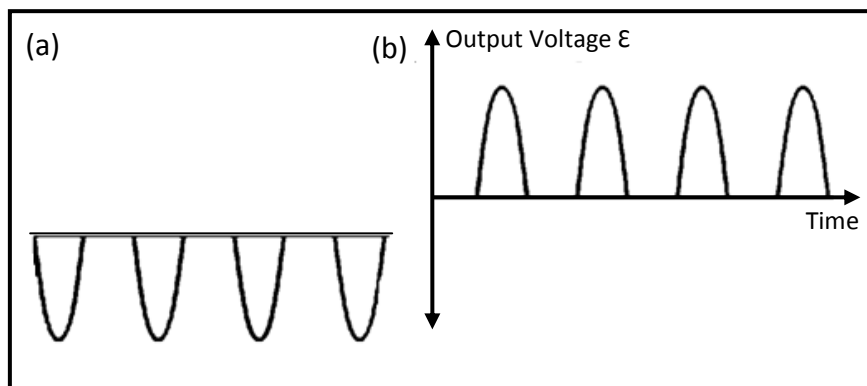

Figure 20. (a) Negative component of AC; (b) Positive signal is allowed to pass through the diode
This property has significant application in converting alternating current (AC) to direct current (DC). Using a network circuit of diodes, the cut off negative cycle (Figure 20) can be made positive. This process is called rectification. As we have studied previously, alternating current (AC) is the main power source in our homes but direct current (DC) is the common powering source in all electronic circuits.